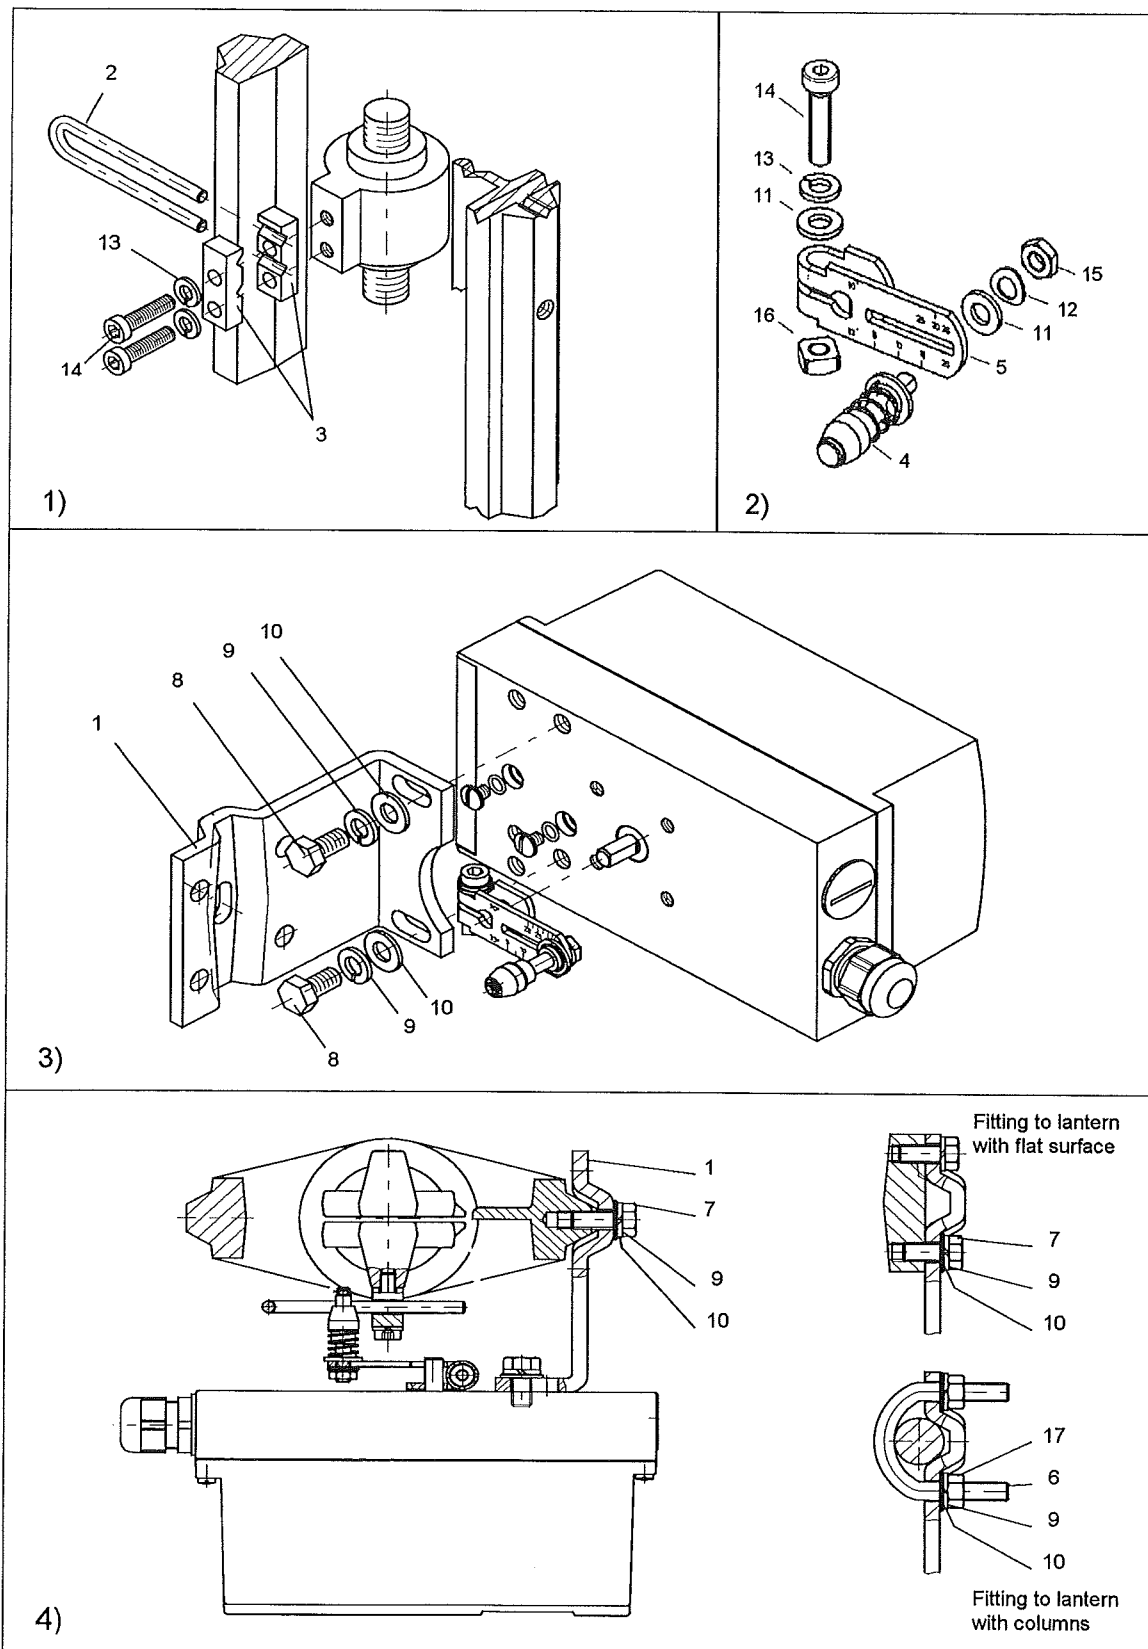

Figure 5 Assembly procedure for IEC 534 linear actuator
The "linear actuator IEC 534" mounting kit, stroke 3 mm to 35 mm, includes (see Figure 5 for identifying numbers):
3.3.1 Assembly procedure (see Figure 5)